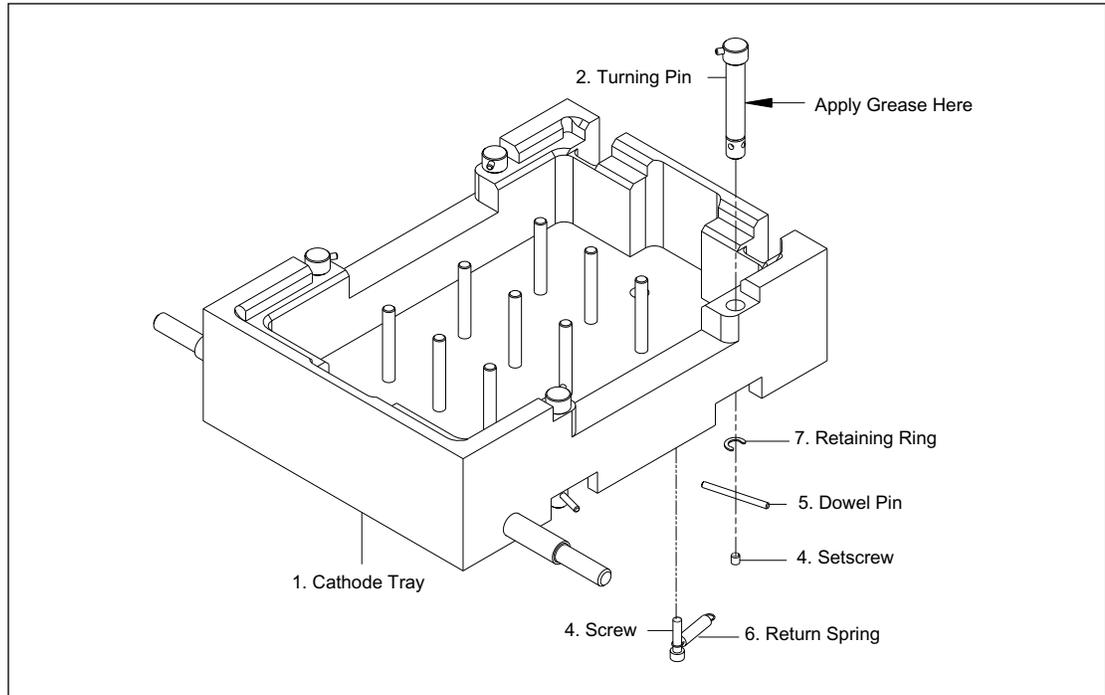

Figure 8-1. Cathode Tray, Top View.
The newer style cathode assemblies and the matching cathode trays have lever mechanisms that automatically lock the Robbins plate or water tank in the tray. Figures 8-1 and 8-2 illustrate the top and bottom of the cathode tray. Sometimes the turning pin (item 2) can stick and not rotate properly. The turning pin will allow the cathode to only go about two-thirds of the way up. Another problem is that the turning pin will not return to its original position and this prevents the plate or tank from being removed easily.